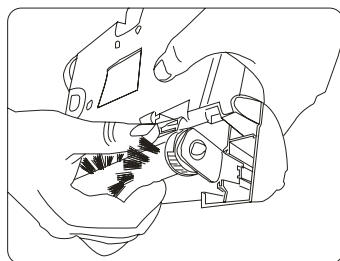

Fig. 15
5. Lift the brush bar end cap up from the slot. (Fig. 15)
9. Insert the brush bar into the slot. (Fig. 15)